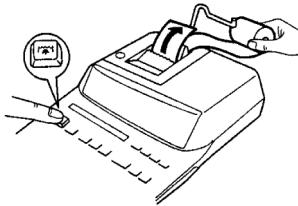

Fig.2
2. Turn the power on and feed the paper by pressing . (Fig.2)